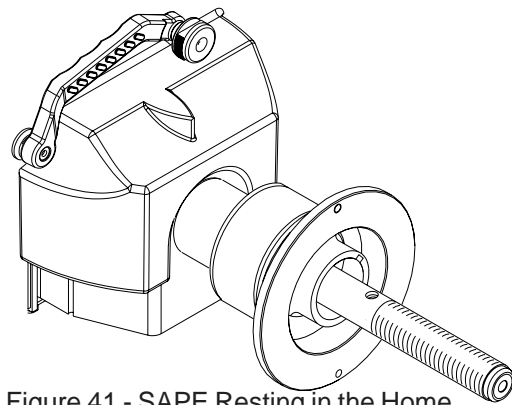

Figure 41 - SAPE Resting in the Home Position
1. Make sure the Rim Offset Gauge Arm is at home position and no wheel is mounted to the shaft as shown in Figure 41.